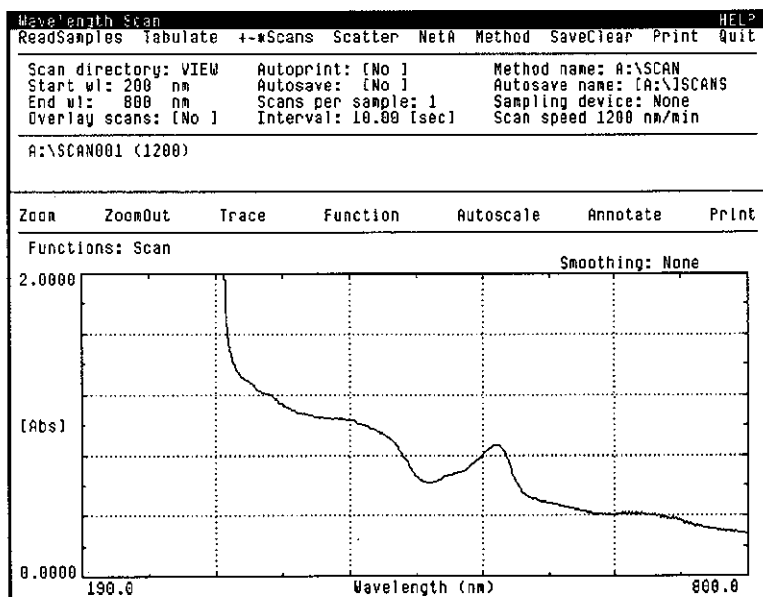

Figure 4-7. Wavelength Scan Window
1. With the Main window displayed, click on "WAVELENGTH SCAN" to display the Wavelength Scan window, Figure 4-7.